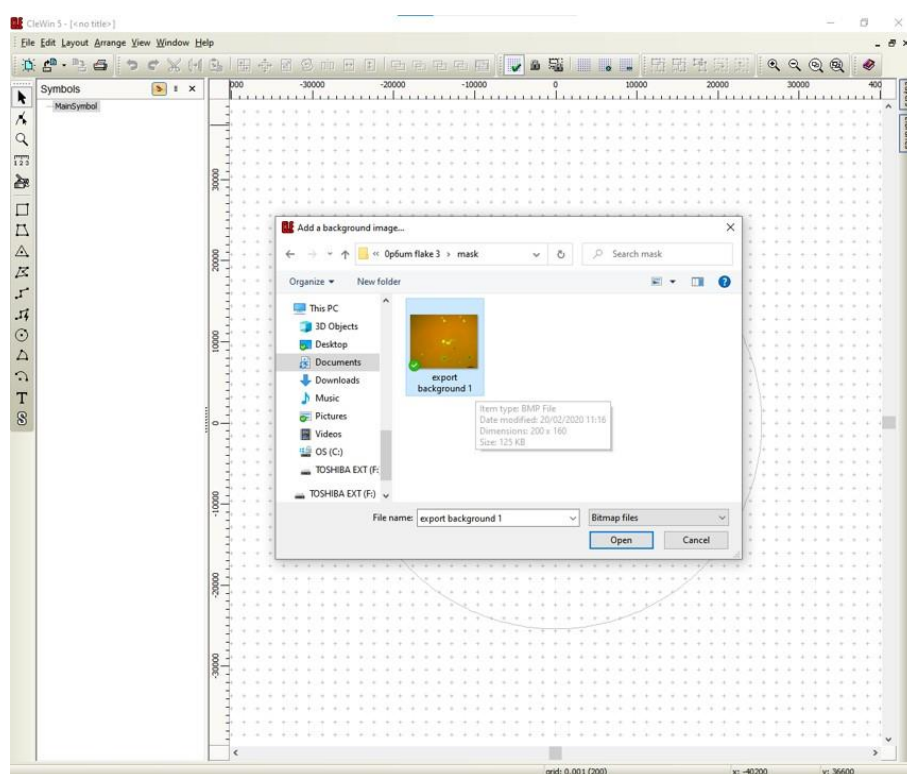

Figure 6 Find and open the previously exported microscope bitmap file.
c. Locate the previously exported image and click the “Open” button (Figure 6).